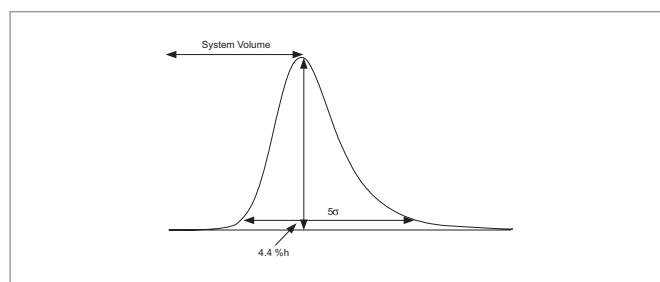

Figure 6: Determination of System Bandsread Volume using the 5-Sigma Method
- Bandsread (µL) = PW (seconds)/60 (see Figure 6)